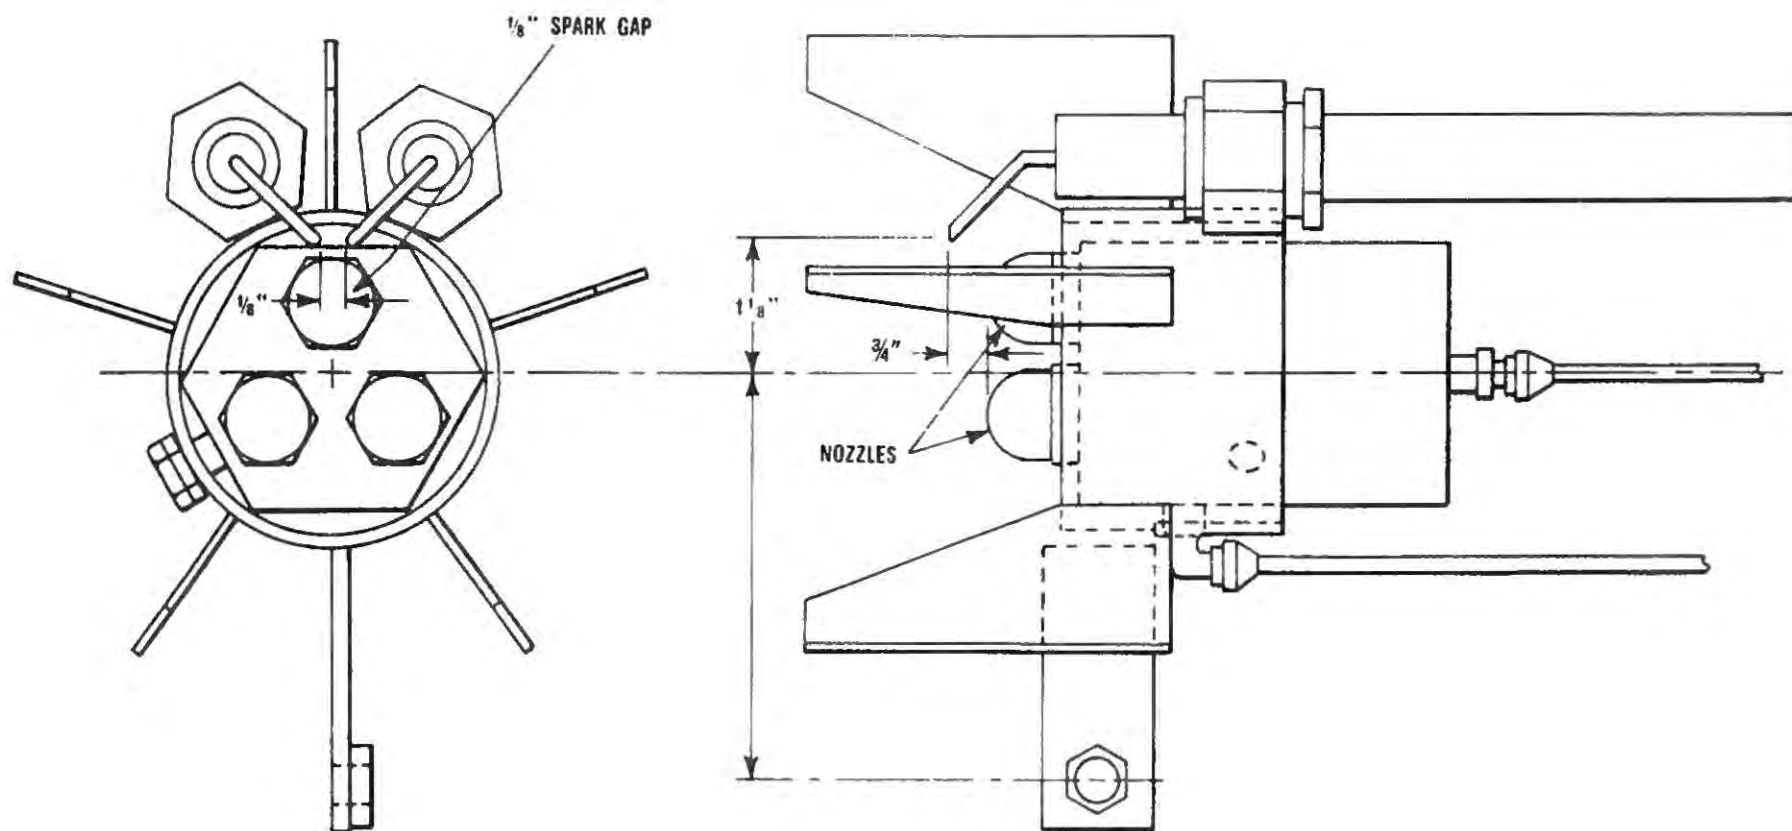

FIG. 5-3 DIRECT SPARK IGNITER - ELECTRODE SETTINGS - TYPICAL
1. The igniter assembly (See Fig. 5-3) should be removed and cleaned regularly. The porcelain insulators should be kept clean, and must be replaced if cracked.
2. The spark gap must be set in accordance with the dimension shown in Fig. 5-3. Care should be taken to make sure the electrodes are kept farther from the nozzles and nozzle adaptor than the width of the spark gap to prevent arcing.